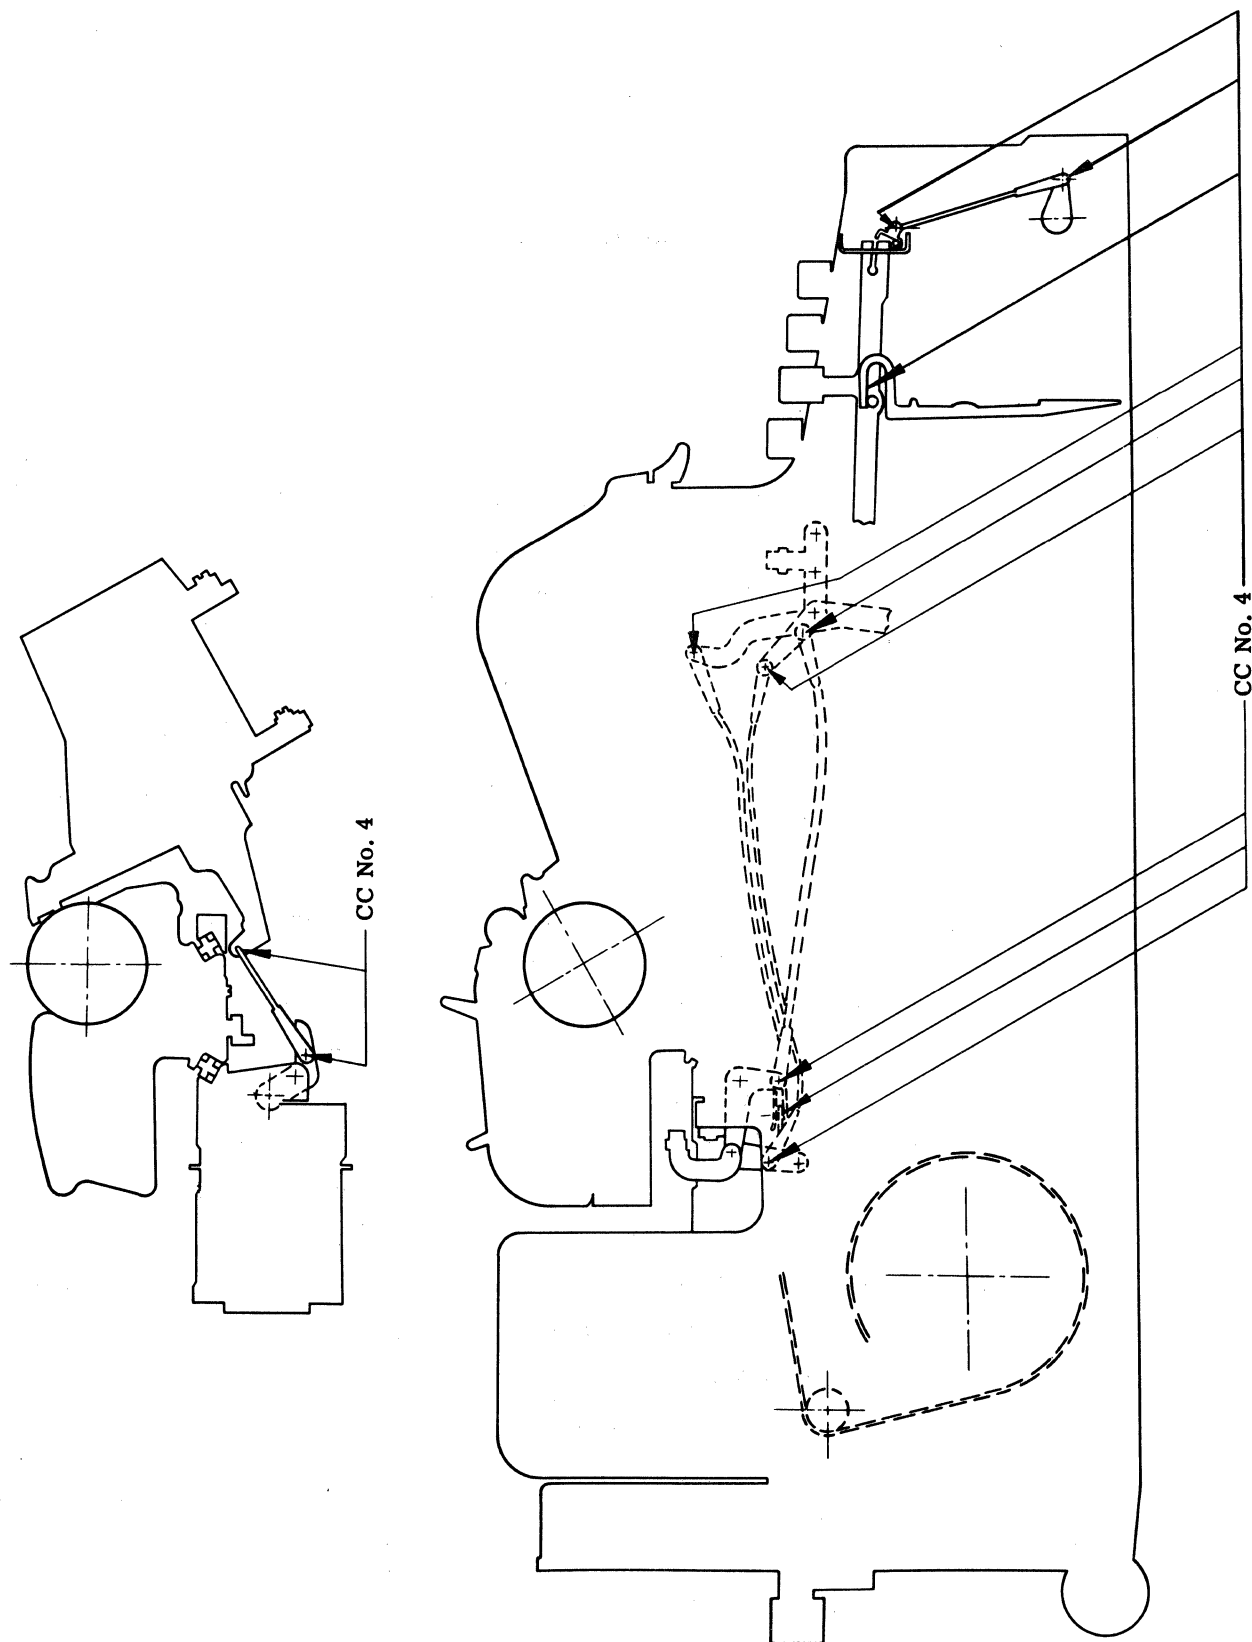

Figure 2-1 Final Assembly (Left side)
Final Assembly — The lubrication points for the final assembly are shown on figures 2-1 through 2-4.
C. C. lubricant number 1 should be used on all pivots, bearings or moving parts not otherwise shown in figures 2-1 through 2-4.